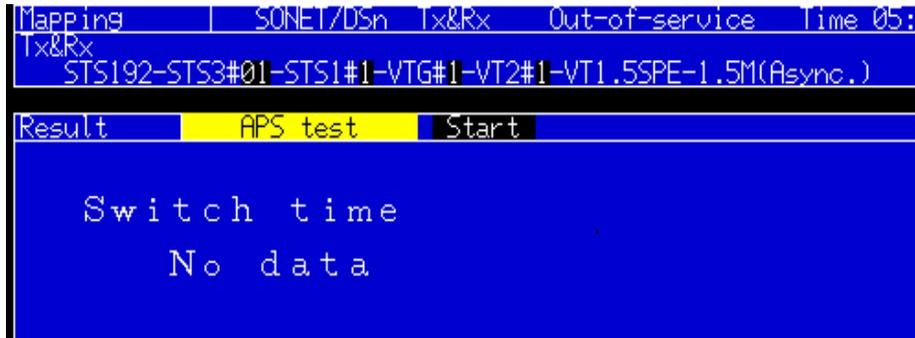

Figure 2.5 : RESULT Menu Screen Display
(4) Result Menu Screen:
- Select → APS Test as in **Figure 2.5** below of the example